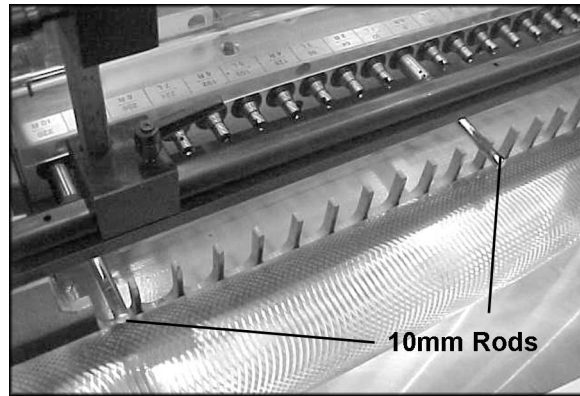

Figure 26
4. Insert two 10mm rods approximately 4.5" long into two quick release chucks. Mount one rod and chuck to the center spindle, and the other rod and chuck to the far left spindle. See Figure 26. NOTE: The 10mm rods must be used to ensure accuracy in the measurements.